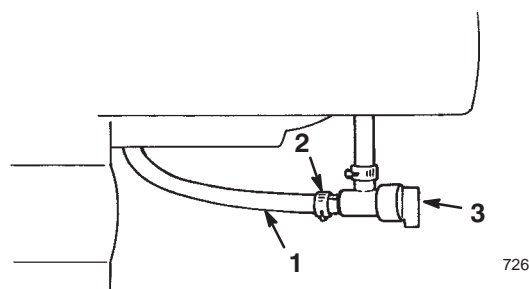

Figure 19
4. Open the fuel shutoff valve below the fuel tank (Fig. 19).
5. Close the fuel shutoff valve (Fig. 19).